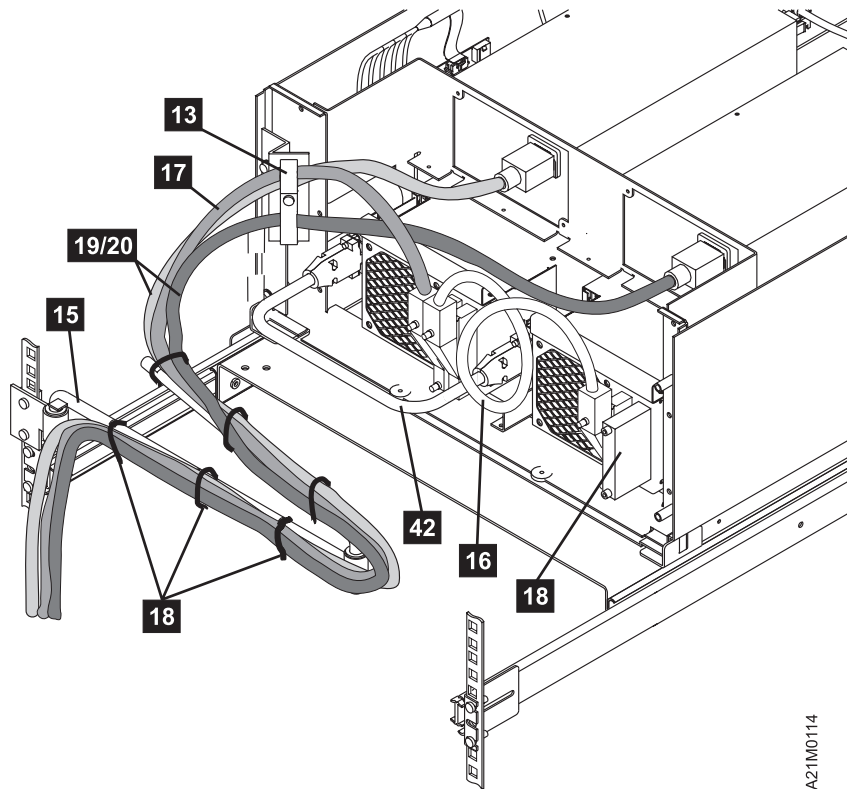

Figure 45. Model B22 (Dual-Drive Single-Host) Cable Routing
- ___ Step 5. Install the long SCSI host cable . Insert the right-angled plug into the left-most 68-pin socket (see Figure 45 on page 84) of drive 1 so the cable is looped upward. Route it to the upper wing of the clamp (loop the cable so it does not extend above the top of the 3570 you are installing). With both the power cord **19/20** and the SCSI cable **17** from drive 1 captured in the upper wing of the clamp, and the power cord **19/20** from drive 2 captured in the lower wing of the clamp, tighten the screw.